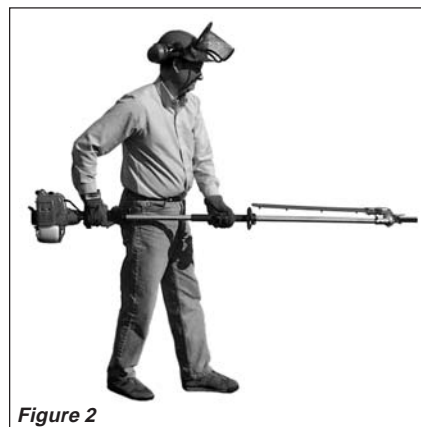

Figure 2
- When carrying the articulated hedge trimmer by hand, the cutter attachment should be pointing backward with the cutter blade in the retracted or transporting position (see page 13 for articulating adjustment procedures). See Figure 2.